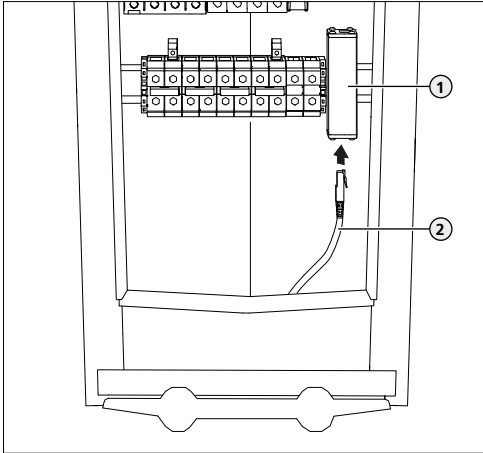

Fig. 17: Ethernet connection
- "Fig. 17: Ethernet connection"